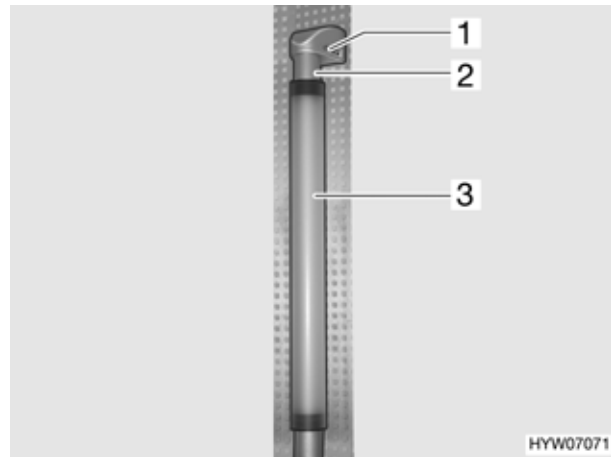

Fig. 169 Toilet light (variant 1)
- Loosen the column base (Fig. 169,1).
- Push metal case (Fig. 169,2) up and remove lamp glass (Fig. 169,3) upwards.